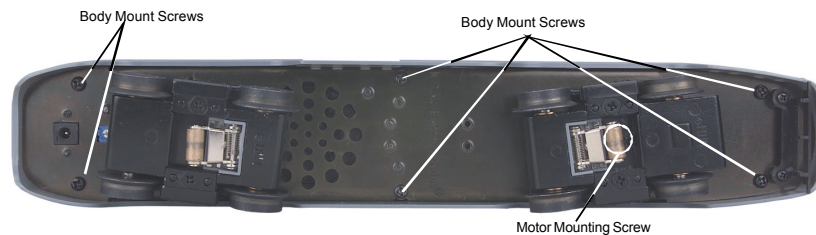

Figure 3
1. To access the gear box, remove the cab from the chassis by unscrewing the chassis screws as seen in Figure 3 and lifting the cab from the chassis.
2. Once the cab is removed, remove the trucks by unscrewing the black Phillips motor mount screw located on the underside of the drive truck (see Fig. 3).